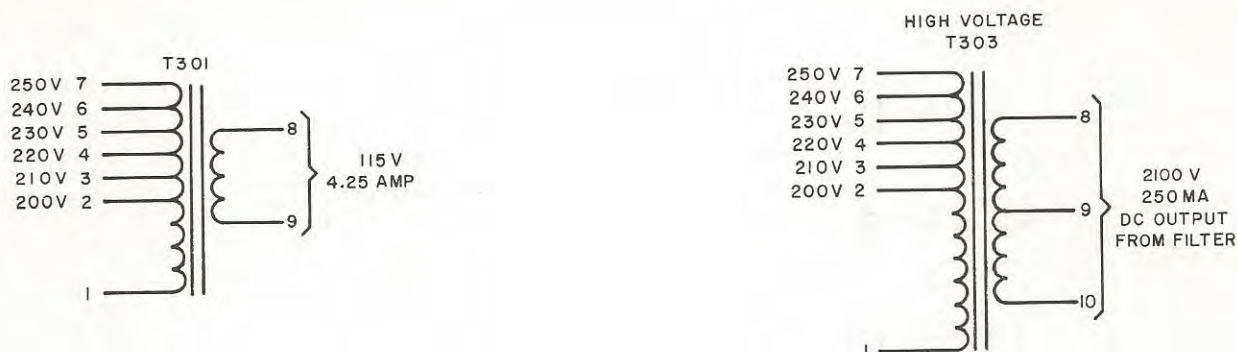

Figure 2-2. Transformer Details
b. Remove the solder lug from T301, terminal 4, and move it to the transformer terminal labeled nearest the voltage measured in step a. Do not move the solder lug from transformer terminal 5, because this terminal supplies 230 volts to the cabinet fan for all line input connections. See figure 2-2 for transformer terminal numbers versus input voltage.
c. Remove the solder lug from T303, terminal 5, and move it to the transformer terminal labeled nearest the voltage measured in step a. See figure 2-2 for transformer terminal numbers versus input voltage.